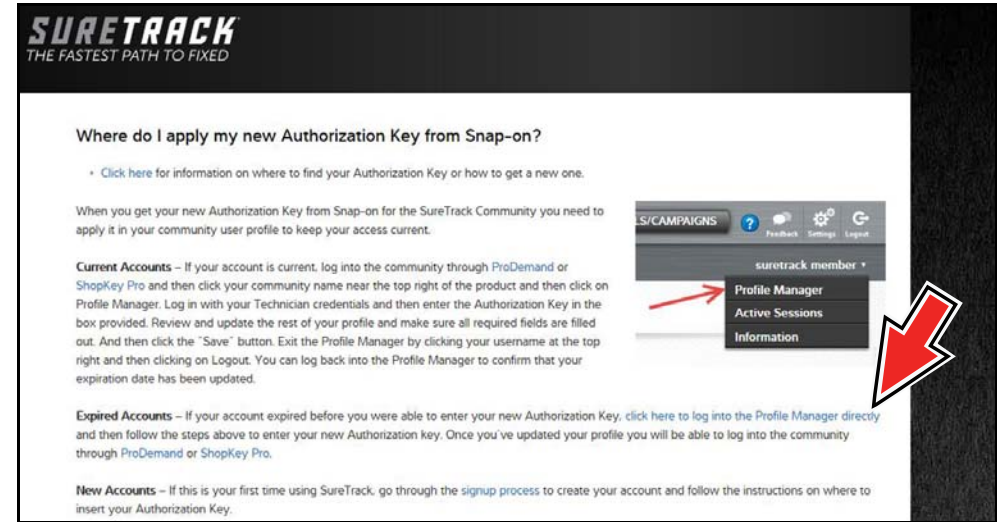

Figure 15-16
3. The SureTrack FAQ webpage opens (Figure 15-16).